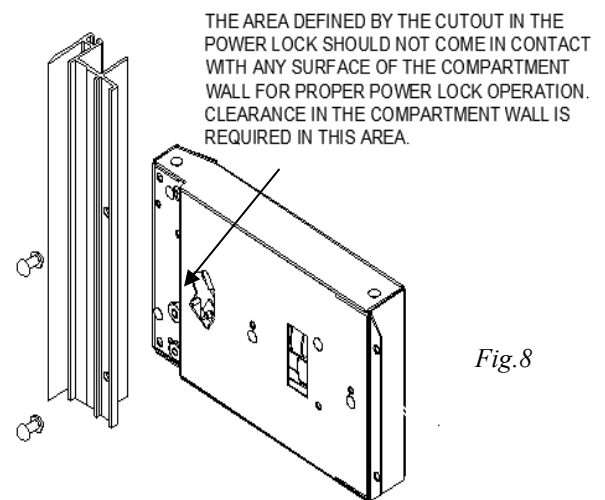

Fig. 8
- a) Mount the power lock to the track if not factory installed. The track will be pre-drilled and slotted for the power lock. Mount the lock using 3/16" pop rivets as shown in Fig. 8. Recessed track will have mounting brackets for the power lock to be mounted to.